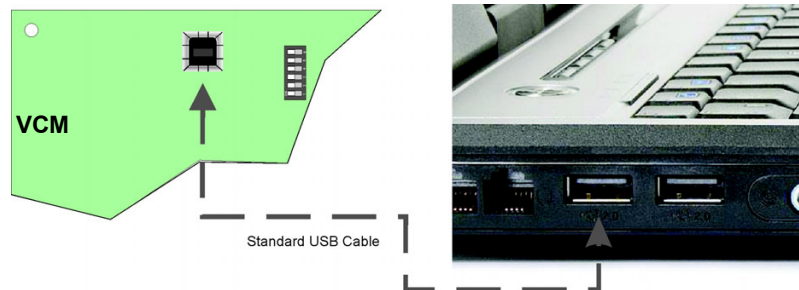

Figure 11-8 USB Cable Connections
2. Connect the PC to the ECS-VCM using a standard USB cable. See Figure 11-8 on page 15.